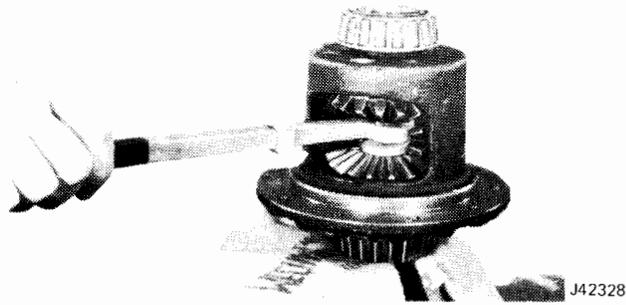

Fig. 10-68 Installing Gear Rotating Tool
- (12) Position pawl end of gear rotating tool on step plate (fig. 10-68).
- (13) Insert forcing screw through top of case and thread into gear rotating tool.